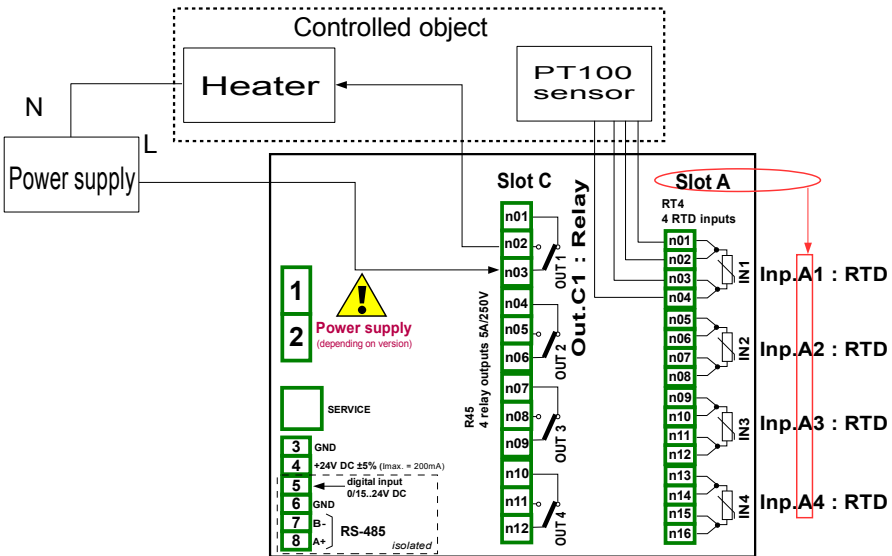

Fig. 7.96. Schematic diagram for the RTD input and Relay output modules
First configure the device as described below, then connect the object and power supply as shown in **Fig. 7.96**.
To control temperature in the object shown in **Fig. 7.96**, it is necessary to configure one **Logical channel** and **Relay output**.
- **Source** parameter set as **Inp.A1 : RTD** (see **Fig. 7.96**),
- using the arrows in the top navigation bar, select a relay output which is connected to the heater. For this example it is the output named **Out.C1 : Relay** (see **Fig. 7.96**),